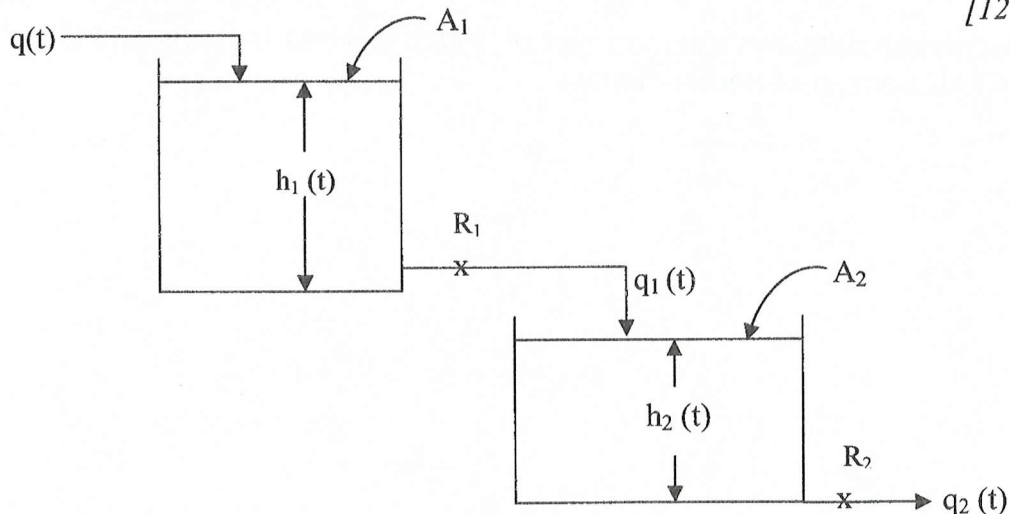

Figure Q.1
- [c] Derive the transfer function relating the level of the liquid in tank 2,  $h_2$ , and the inlet flowrate,  $q$ , to tank 1, when the two tanks are connected in the non-interacting way, as shown in Figure Q.1.